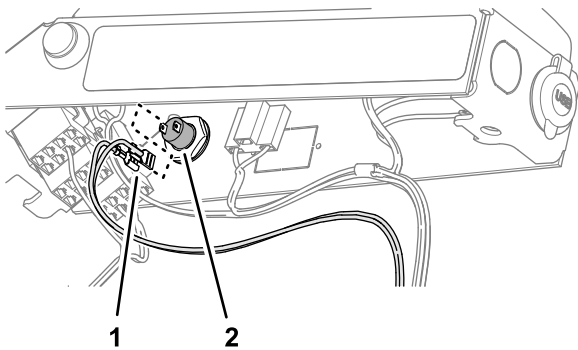

Figure 62
4. Assemble the terminals of the wire harness branch labeled REMOTE ENGAGE SWITCH) onto the terminals of the push-button switch (Figure 62).